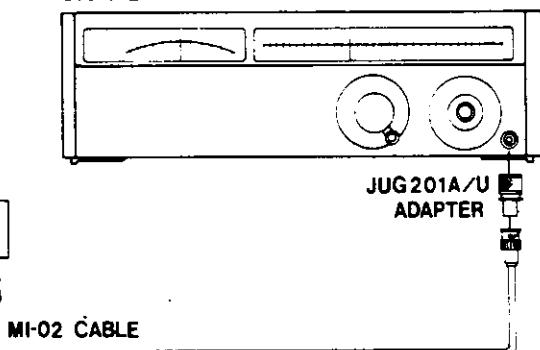

Fig.3-20 RF. ATT. Accuracy Test Setup
- (1) Reset specific controls from the initial settings (Para 3-3-1-(3)) as follows:
- (2) Set the Signal Generator output to 100MHz/110dB $\mu$  and the external Attenuator to 40dB respectively, and connect it to **INPUT** of the instrument. [Fig. 3-20]